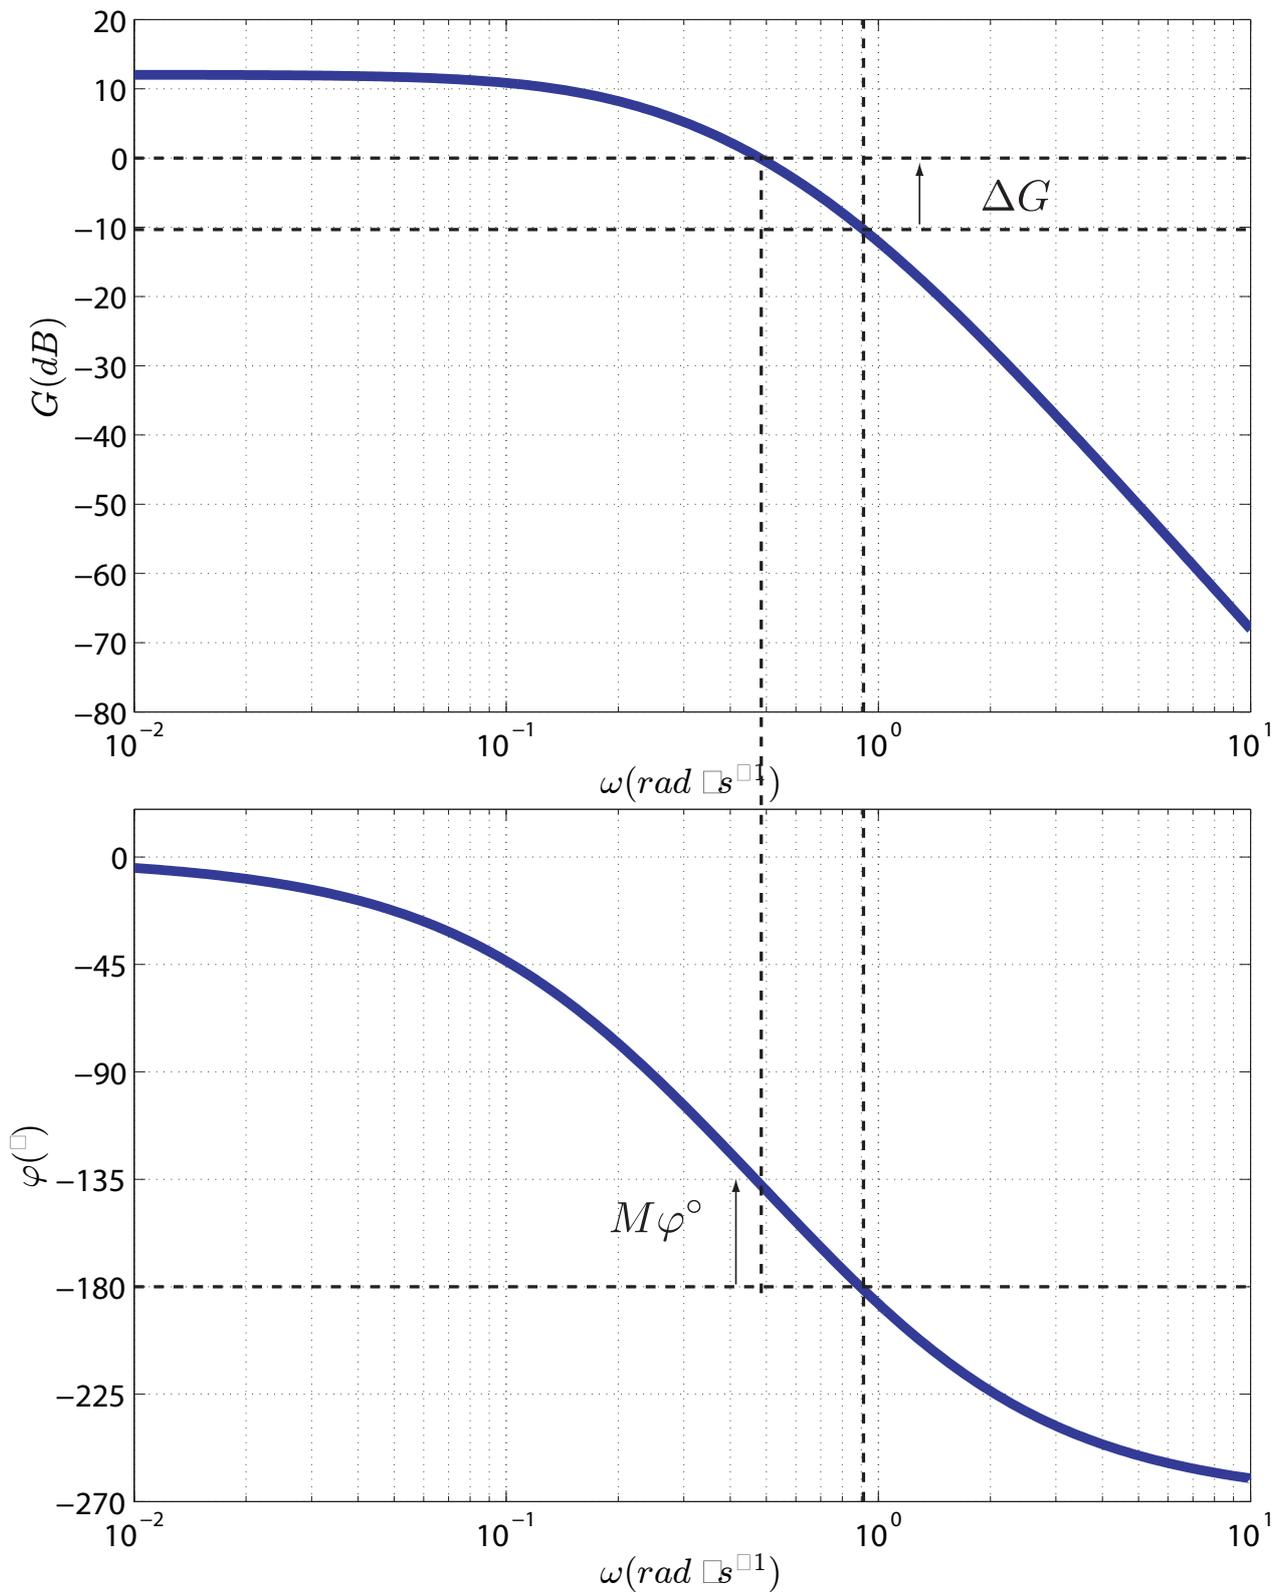

FIGURE 12 – Exemple 1
1. $FTBO(p) = \frac{4}{(1+p)(1+2p)(1+5p)}$ (figure 12).